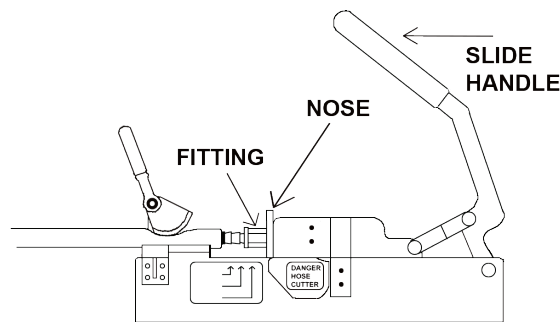

Figure 3
5. Push slide handle forward, pressing the nose against the fitting, until the fitting is seated against the yellow plastic ring. (Fig. 3)